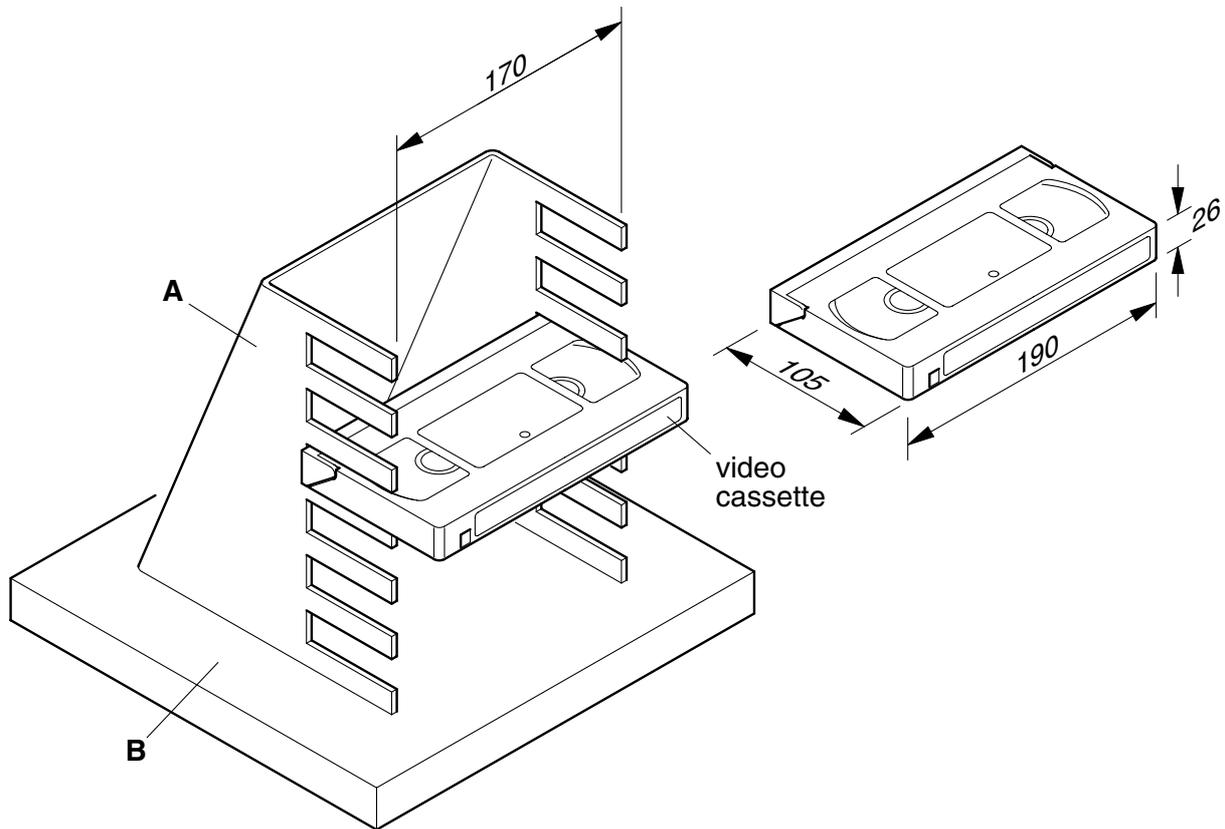

Fig. 1
- 7 Fig. 1 shows an outline view of a video cassette storage unit to be made in a school workshop.